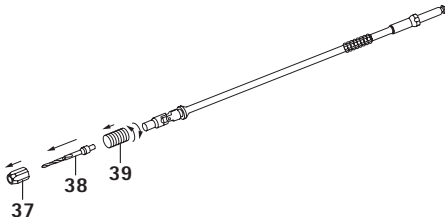

Fig. 8 Disassembling ME189R
- ▶ Remove the drill bit **38** from the shaft end and slide the spring **39** off the u-joint, see Fig. 8.